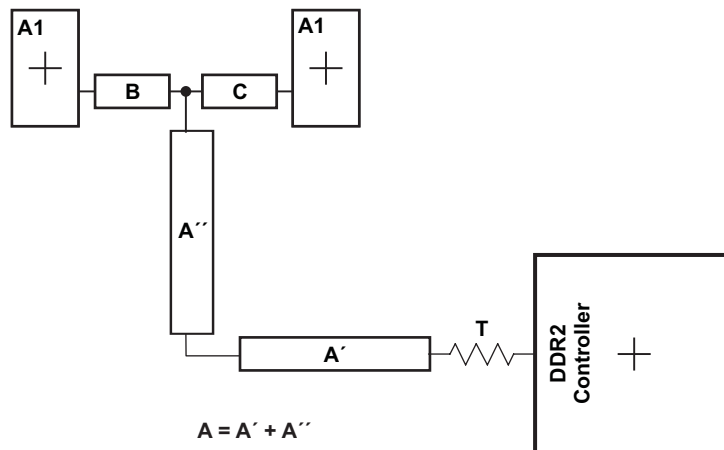

Figure 8-53. CK and ADDR\_CTRL Routing and Topology
Figure 8-53 shows the topology of the routing for the CK and ADDR\_CTRL net classes. The route is a balanced  $T$  as it is intended that the length of segments B and C be equal. In addition, the length of A ( $A'+A''$ ) should be maximized.
- (1) The length of segment  $A = A' + A''$  as shown in Figure 8-53.
- (2) Series terminator, if used, should be located closest to the device.
- (3) Center-to-center spacing is allowed to fall to minimum (2w) for up to 500 mils of routed length to accommodate BGA escape and routing congestion.
- (4) CACLM is the longest Manhattan distance of the CK and ADDR\_CTRL net classes.